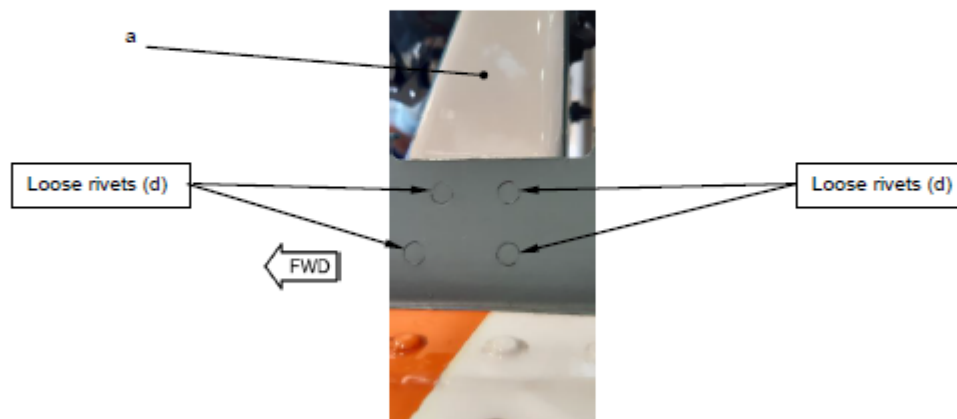

Figure 2
- Cut and remove the Teflon tape (c) on the hatched area (A) with the cutter (yy) (not shown).
3.B.2.d. Visual inspection of the rivets head of the rear bearing support under the Teflon tape (Figure 2)
A loose rivet is a rivet with black mark or missing paint around the rivet head, refer to the Figure 2.